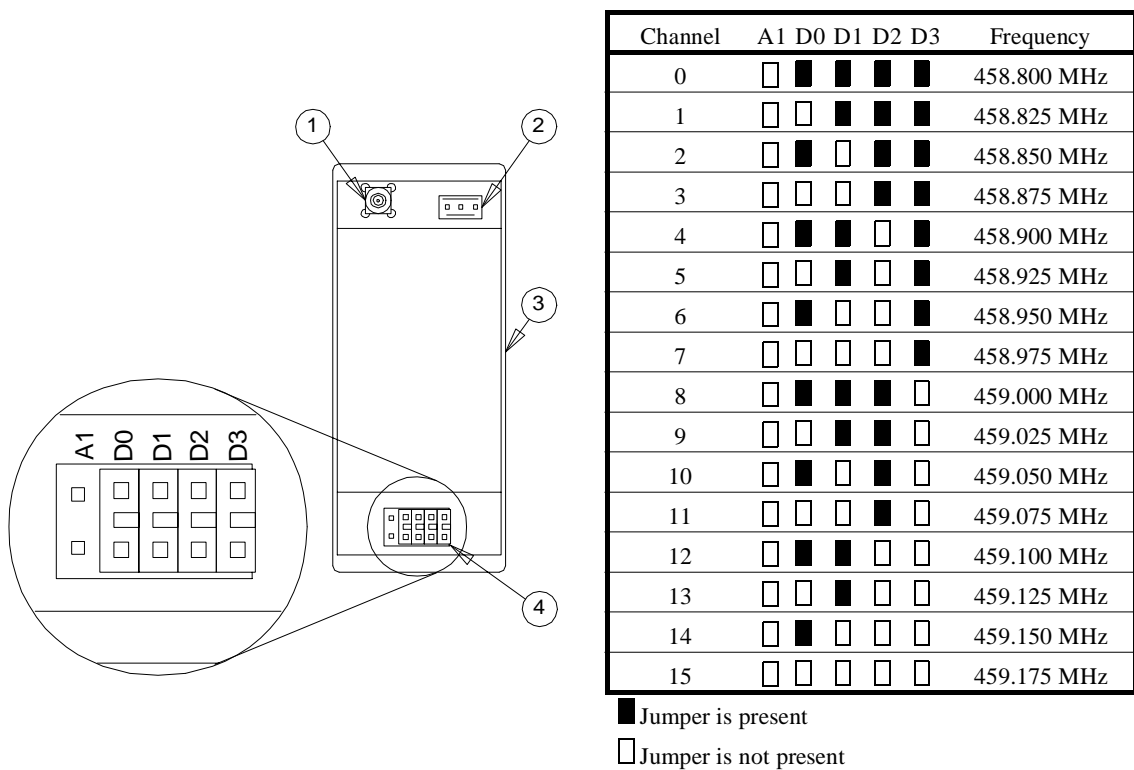

Figure 2.12: Receiver Frequency Channel Diagram
The PulseStar•609 transmitter and receiver operate over the 400—470 MHz frequency range (70-cm band). There are 16 possible frequencies and 16 corresponding channels available. Figure 2.12 : Receiver Frequency Channel Diagram shows each channel, its respective frequency, and the position of the five jumpers according to the diagram for the frequency channel you are setting.
2. Reference Figure 2.12: Receiver Frequency Channel Diagram to locate the Frequency Channel Jumper Block inside the receiver.
3. Set the frequency channel jumpers according Figure 2.12: Receiver Frequency Channel Diagram for the frequency channel you are setting for the receiver. A black box indicates that a jumper should be present in that position. A white box indicates there should be no jumper present in that position.